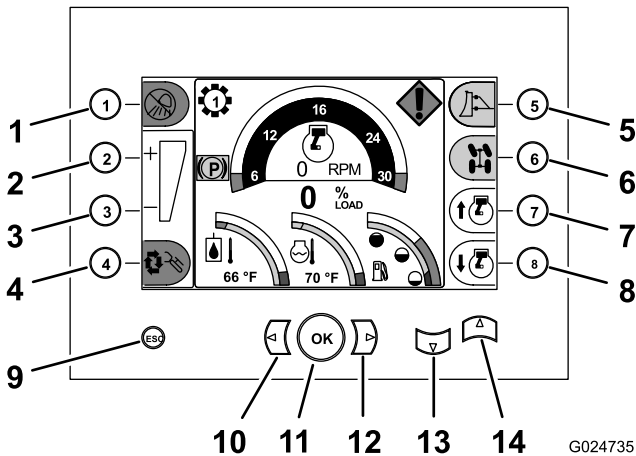

Figure 9
Become familiar with all the controls (Figure 9 through Figure 16) before you start the engine and operate the machine.
Use the buttons on the command center to control the operation of machine functions, and to navigate to the machine setup and diagnostic screens (Figure 9).
- **Throttle-up Button**—Press the throttle-up button (button 7), located at the bottom-right corner of the command center, to increase the engine speed (Figure 9).
- **Throttle-down Button**—Press the throttle-down button (button 8), located at the bottom-right corner of the command center, to lower the engine speed (Figure 9).